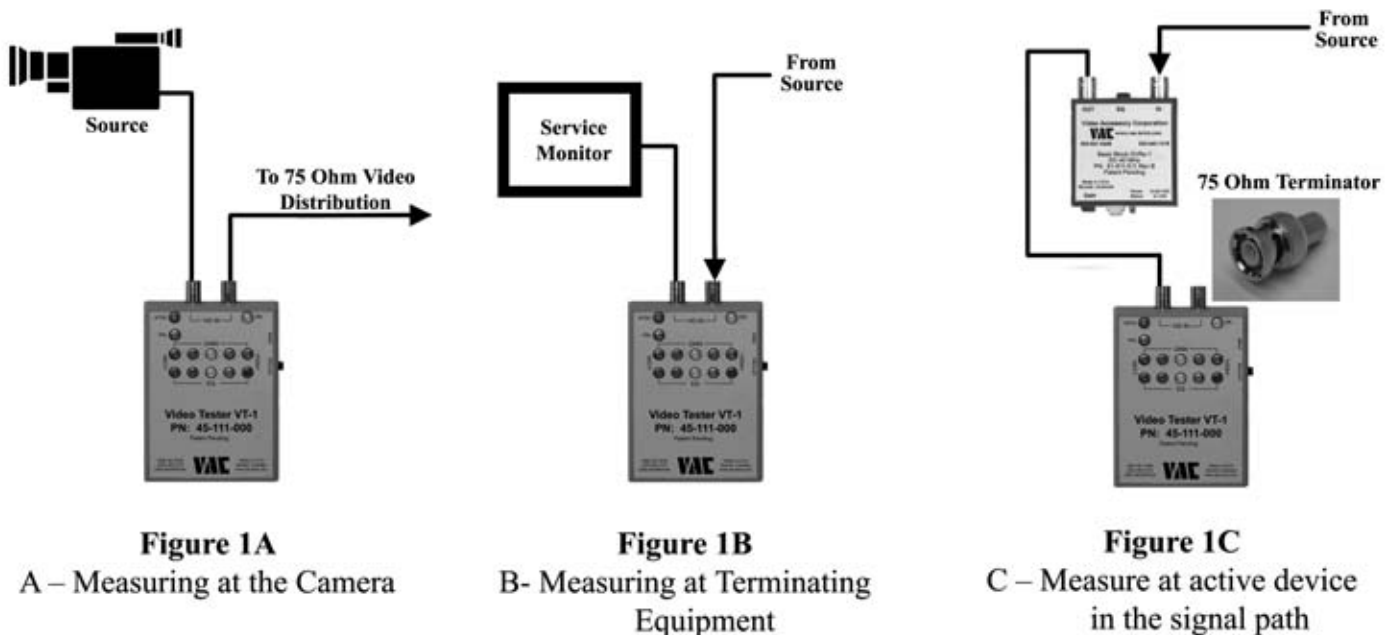

Fig 1 - Common Test Points in a Video Distribution System
1. Place the tester in-line with the signal to be checked -OR- attach the video cable to one BNC connector and place a 75 Ohm terminator on the second BNC connector. Either BNC connector on the VT-1 may be used as the input or the output connection. (See **Figure 1** for additional information on where to locate the tester in the video system.)
These locations, along with options for video connections to the VT-1 tester, are shown in **Figure 1**.